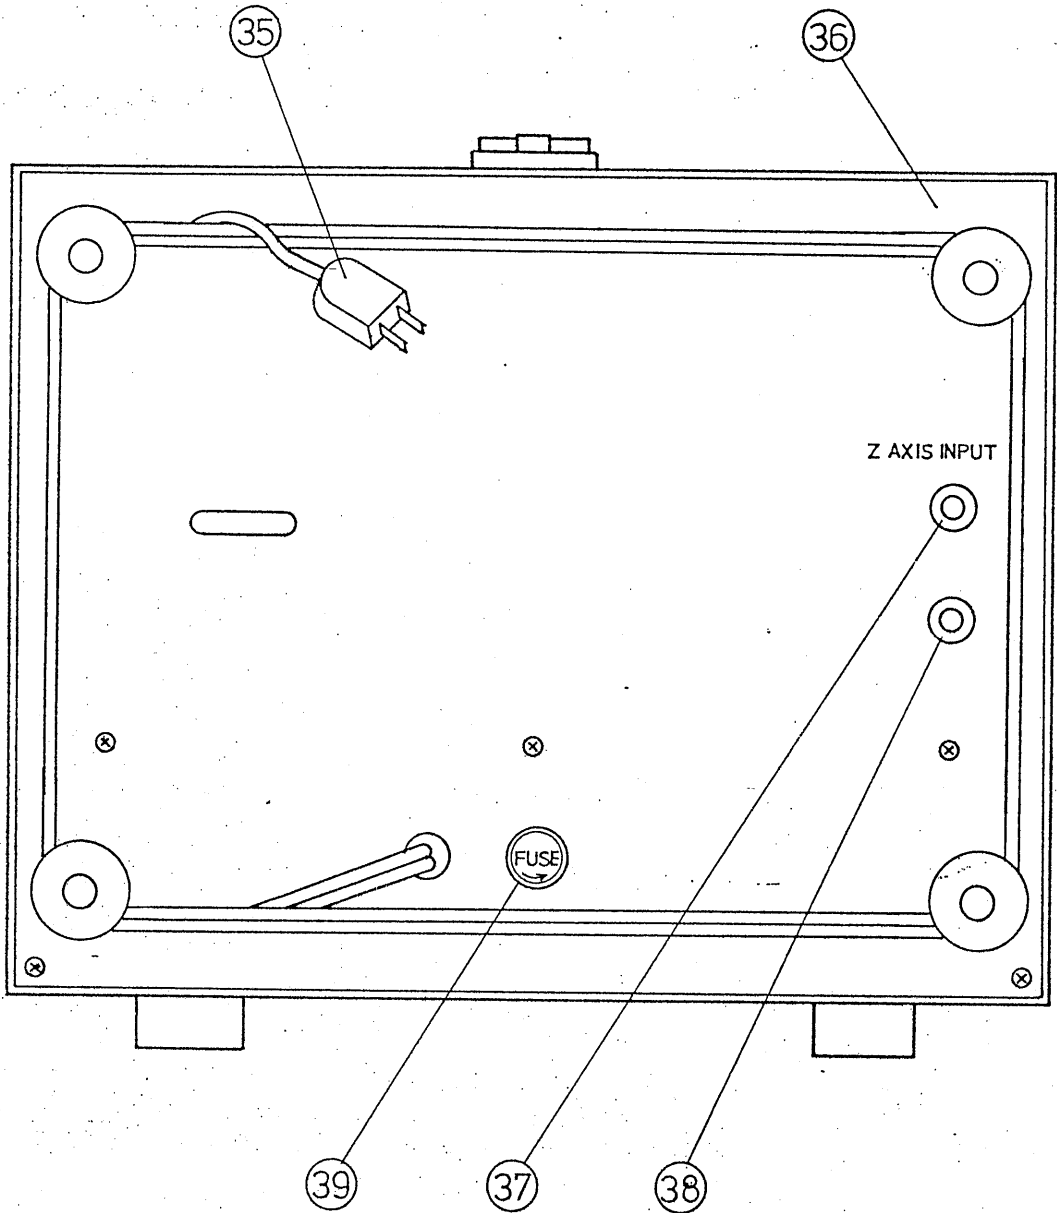

Fig. 2
3.2 Explanation of rear panel (Refer to Fig. 2)
This function is used for brightness control by external signal or indicating marker signals by intensity modulation. Remove the short bar of the external intensity modulation terminal Z AXIS INPUT ⑳ (Refer to Fig. 2), and connect a signal for intensity modulation between the terminal ⑳ and the GND terminal ㉑.